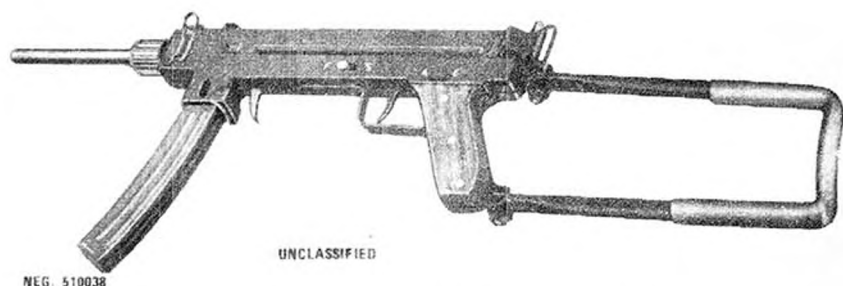
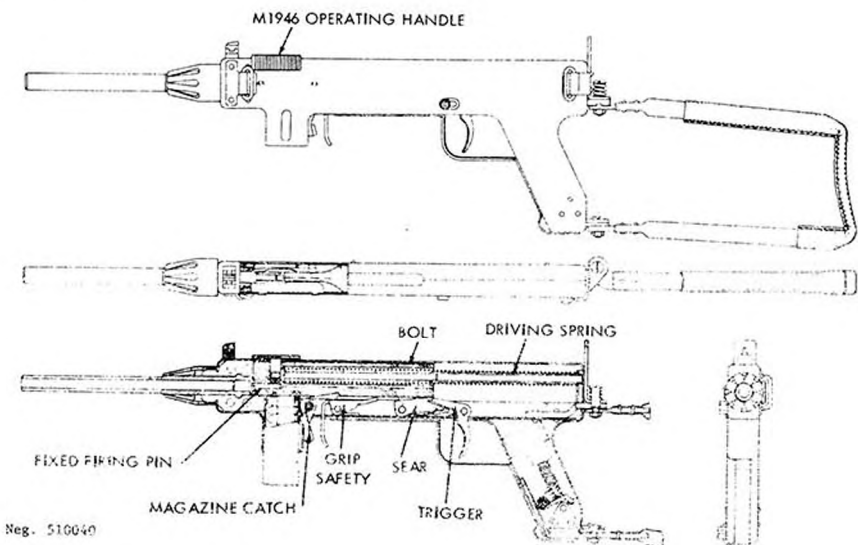

Figure 39. Madsen Model 1953 submachinegun.
Figure 41. Madsen M1946 submachinegun, section.
b. Several variants of this submachinegun are in existence. An early model, the M1946 (fig 41), has a flat, flanged operating handle that extends across the top and down over the sides of the receiver. The more common M1950 (fig 38) uses a small circular knob for its operating handle. The M53 (fig 39) model has a curved magazine and a short cylindrical barrel nut that screws onto the barrel instead of onto the receiver as in the M46 and M50. The Mark II resembles the M53 but has a selector button located over the left grip plate; this model may also be fitted with
The basic functioning of the blowback-operated Madsen submachinegun is similar to that of the M.A.T.-49 (para 61). The grip safety (fig 41) is a simple, spring-loaded catch that, unless manually depressed, will engage with the sear notch in the bolt and prevent the bolt from moving fully forward. When at safe, the safety blocks the sear and prevents it from depressing to release the bolt.